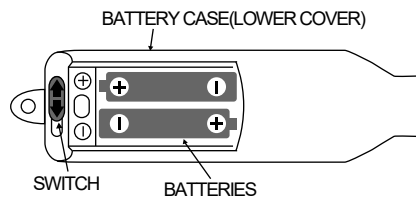

Fig. 1
2. Install two AA-Size batteries according to polarity directions embossed on the Battery Case. (See Fig. 1)